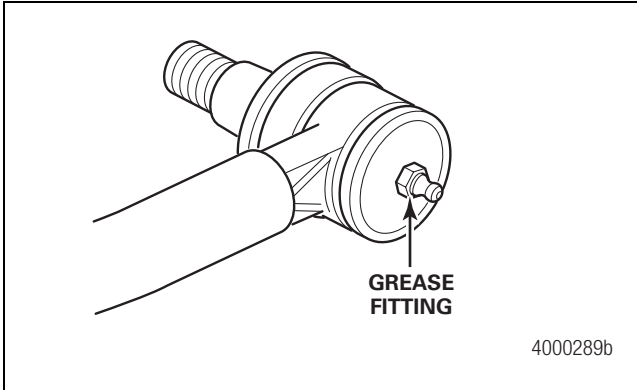

Figure 6.1
1. If a grease fitting is missing, install a new one. Figure 6.1.